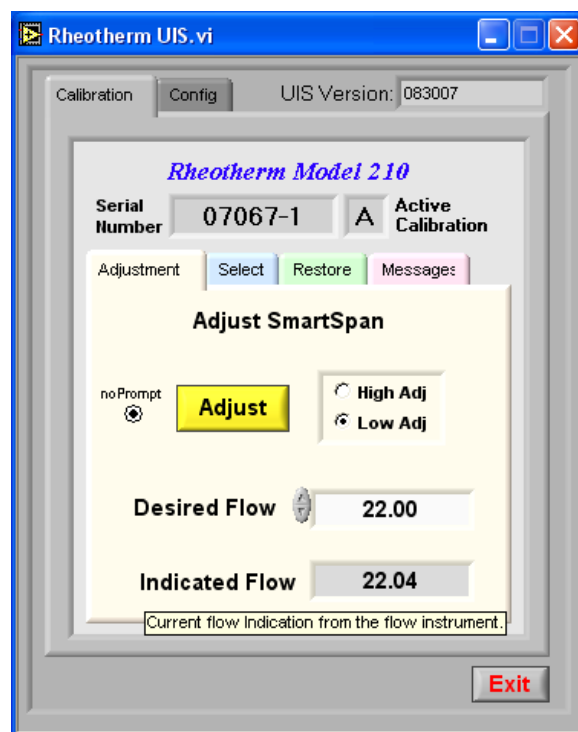

Figure 5 - Calibration Adjustment Form
- v. After the initial connection the application will automatically advance to the [Calibration][Adjustment] tab as shown in Figure 5.